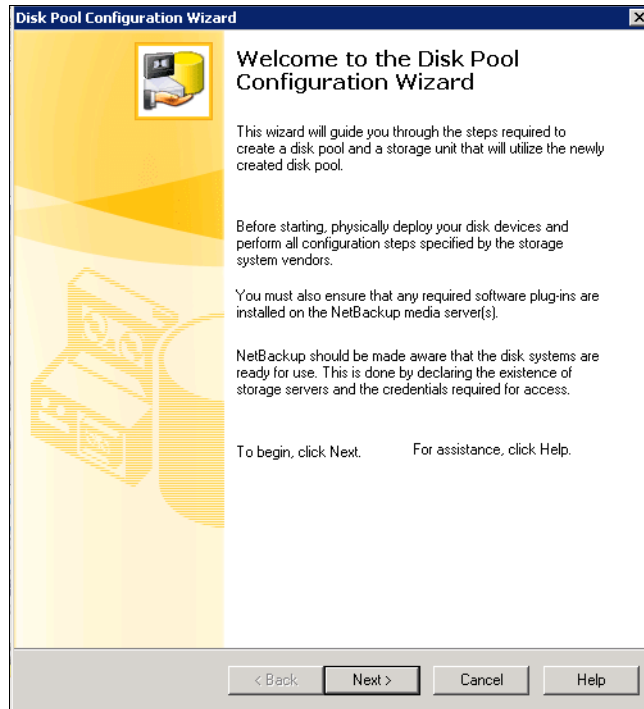

Figure 9-31 Start the creation of a storage unit
1. If you clicked Next in step 7 on page 463, the window shown in Figure 9-31 should be open; otherwise, open the window from the NetBackup Administration Console tree.